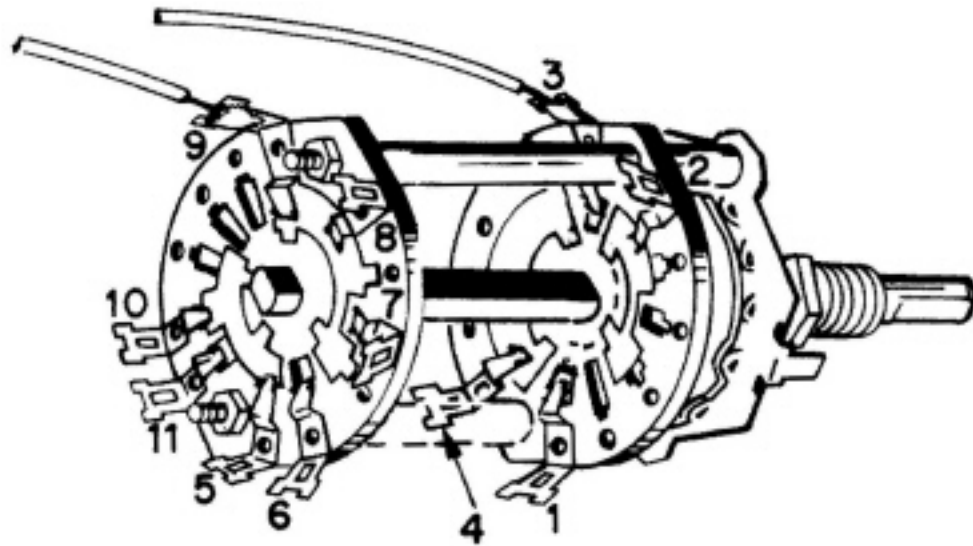

FIGURE 10
SEE FIGURE 10
- ☐ White wire with brown tracer. Solder one end to terminal 3 of TS-2 (3 wires). Route wire as shown under C30 to terminal 4 of SW2, and solder. See Figure 10 for location of terminal 4.